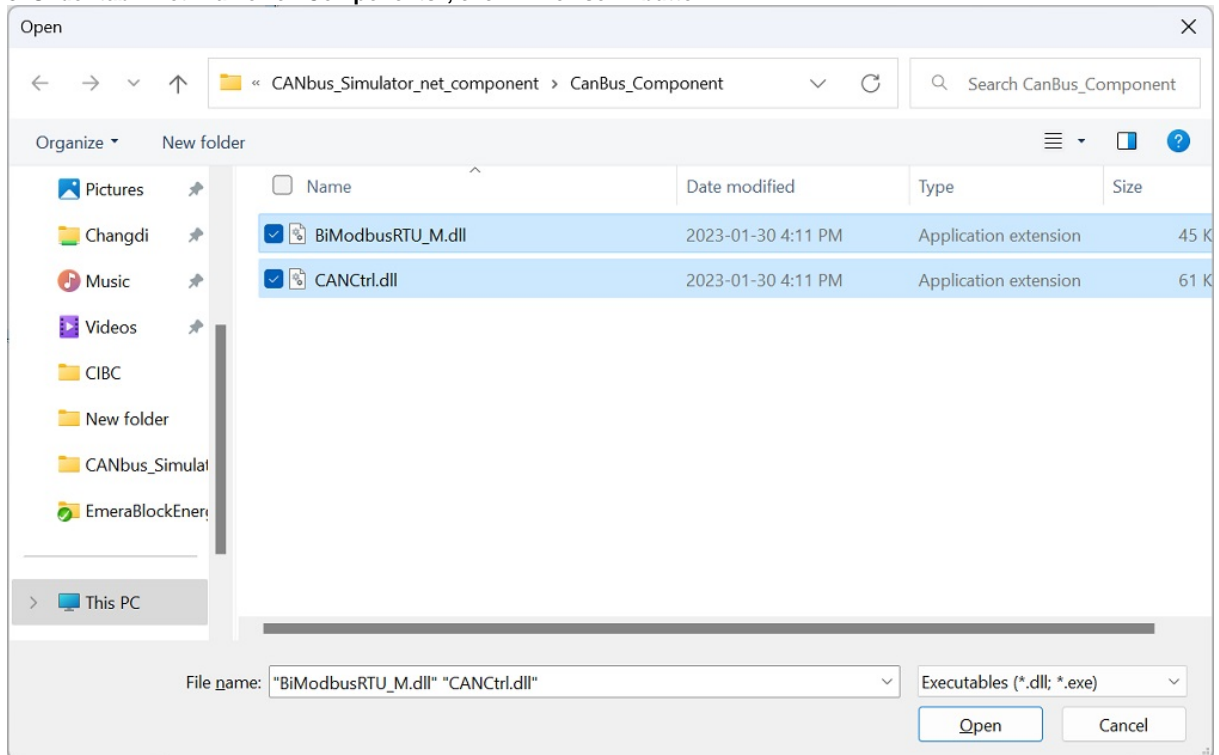

Fig.7 Choose dll
9. In Fig.7 above, please choose folder in step1 which is unzip files folder, and choose 2 Files: "CANCtrl.dll" and "BiModbusRTU_M.dll", and click "Open" button.